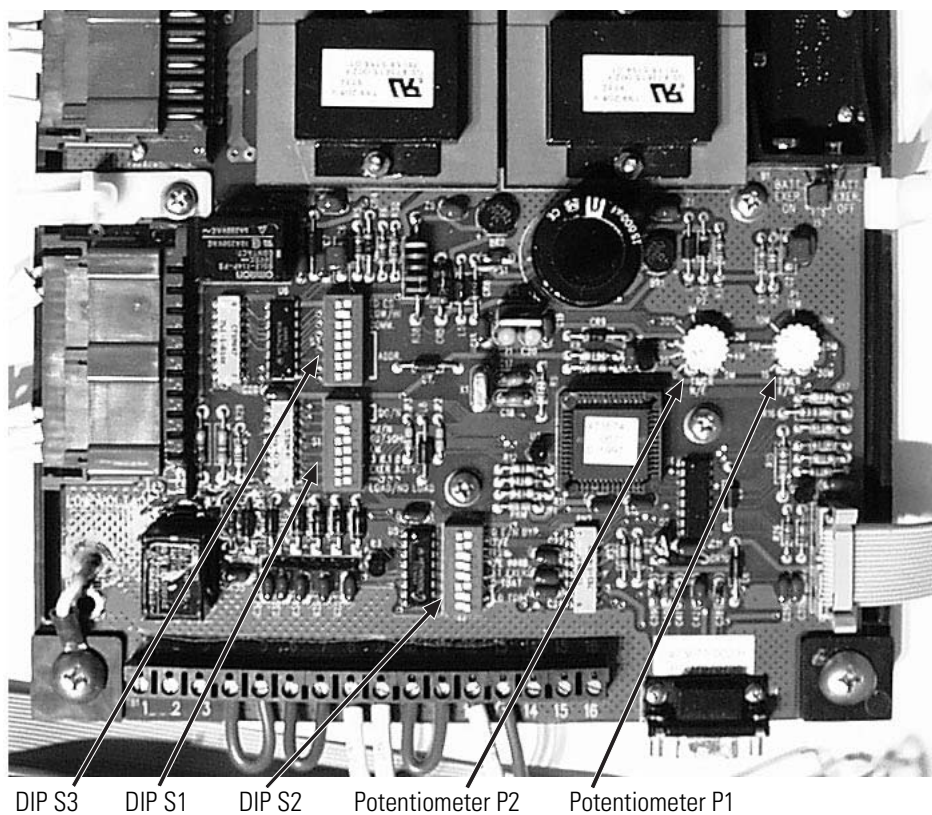

Figure 23: Adjustment potentiometer and DIP switch locations
4. Use Figure 23, below, to locate the desired adjustment component.
1. Locate S3 using Figure 23 on page 23 and set S3-1 to the desired setting.
1. Locate potentiometer P1 (Emergency to Normal) or P2 (Normal to Emergency) using Figure 23 on page 23.
1. Locate S3-2 using Figure 23 on page 23 and set it to the desired setting.
1. Locate S1-3 using Figure 23 on page 23 and set it to the desired setting.
1. Locate S1-1 and S1-2 using Figure 23 on page 23 and set the voltage.
1. Locate S1-4 using Figure 23 on page 23 and set it as desired.
1. Locate S1-6 using Figure 23 on page 23 and set it as desired.